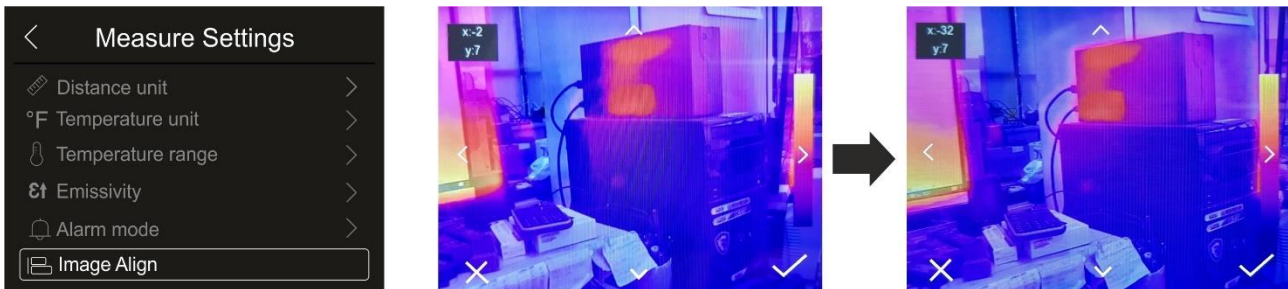

Fig. 30: Alignment of the image on the display
1. Touch the item “Image Align”. Fig. 30 – middle is shown on the display. In this figure, the two images with a low infrared value are overlapping.
2. Touch the 4 arrows on the display in order to move the IR image by overlapping it onto the visible one (see Fig. 30 – right side).